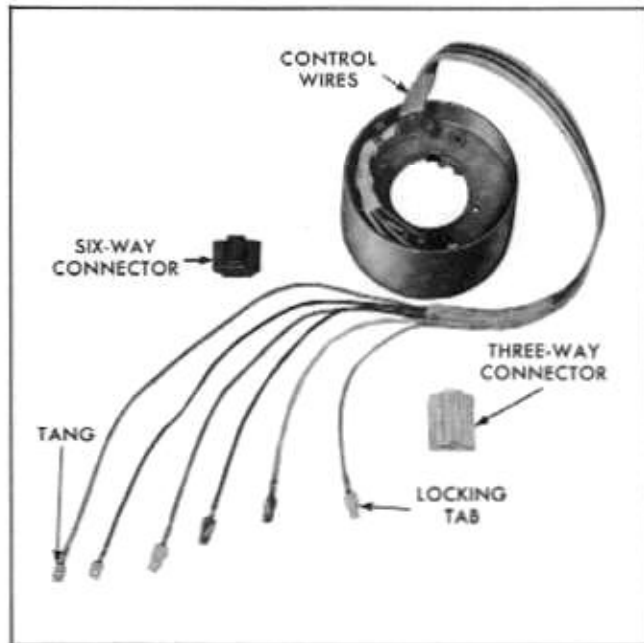

Fig. 7-15 Routing of Direction Signal Wires
16. Install direction signal housing with two attaching screws. To simplify installation of direction signal wiring, tape loose ends with scotch tape so that they can be easily guided through openings in steering column jacket. Direction signal wires in housing should be routed as shown in Fig. 7-15 to prevent